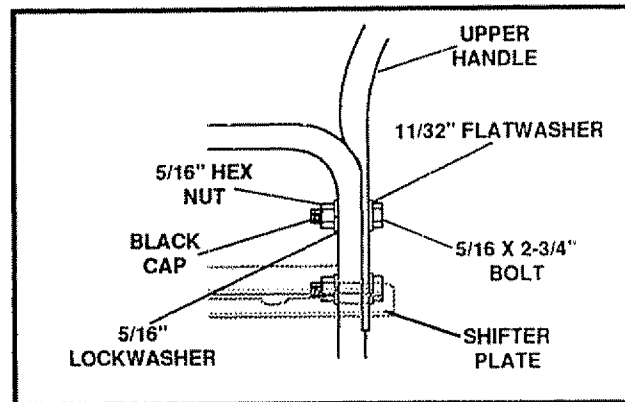

FIG. 4A
- Remove the screws, flatwashers, lockwashers, and hex nuts securing the shifter plate in the lower holes of the lower handle and move shift lever to 3rd gear (See Fig. 4A).
- Tighten the screw, flatwasher, lockwasher and hex nut at the lower right hand hole (See Fig. 4A).